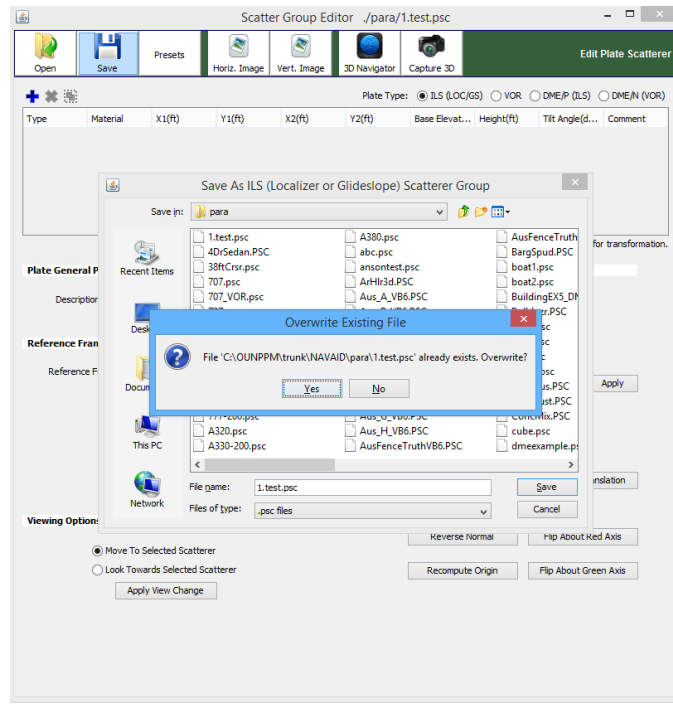

Figure 79: Open scatterer dialog.
**13.1.1.1.0.0.1 Open** Pressing the  button will open a file browser as shown in figure 79. When you select a .psc file to open, one row will be added to the scatterer editor table for each scatterer plate in the scatterer group. If there are already scatterer plates in the table when a file is loaded, the new plates will be appended into the tables bottommost rows.